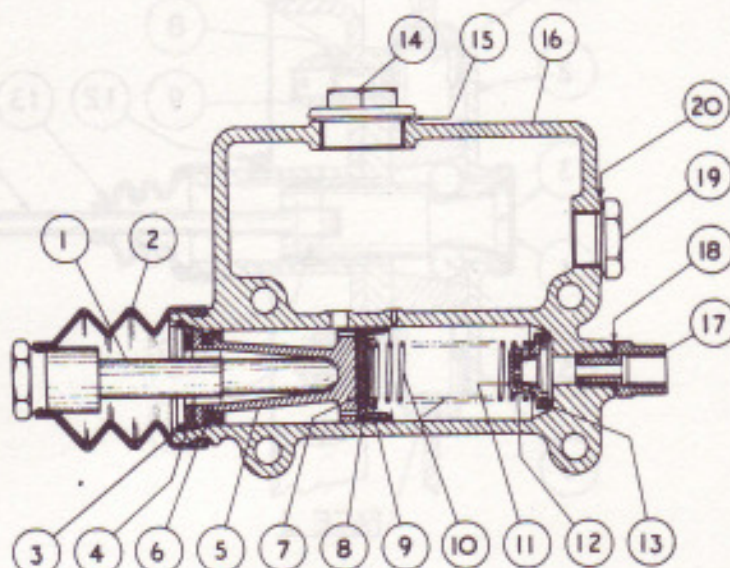

FIG.3. SECTION THROUGH HYDRAULIC MASTER CYLINDER.
When the piston (5. Fig.3) is propelled along the cylinder by the push rod (1) (connected to the servo motor), fluid is forced through the radial holes in the valve (11) and along the pipe line to operate the front wheel hydraulic expanders. On releasing the brake pedal, the piston returns to its off stop under the influence of the return spring (10) and the front brake shoe pull-off springs. At the same time, fluid flows back past the valve (which is temporarily lifted off its seating) and into the master cylinder, the valve will shut when the spring load on the valve is balanced by the fluid pressure in the pipe line. This has the effect of maintaining a pressure slightly above atmospheric in the pipe line and expander cylinders which prevents the ingress of air.
Reference to the section view Fig.3. will show that two holes are drilled through the base of the reservoir and into the cylinder. When the piston is against its off stop, the small drilling is just forward of the leading edge of the piston main cup (8), thus fluid may flow to or from the reservoir